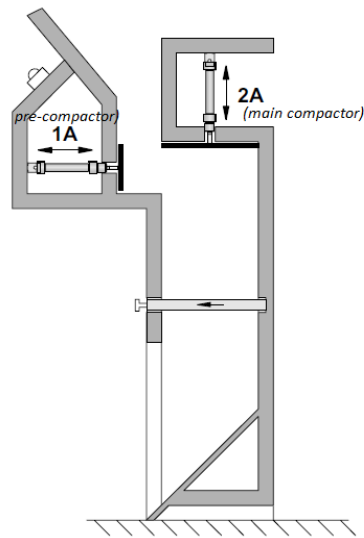
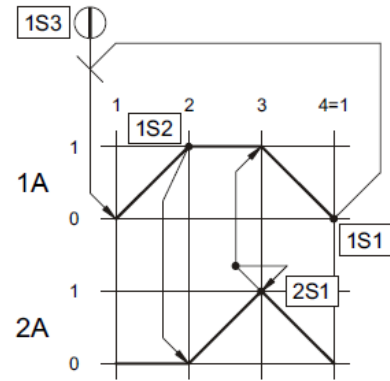

Figure 2
Figure 3
- (c) Develop a pneumatic circuit diagram according to the following description. The prototype of the pneumatic domestic rubbish compactor (under table model) as shown in Figure 2 is operated with a maximum working pressure of  $P = 3 \text{ bar} = 300 \text{ kPa}$ . It is equipped with a pre-compactor (1A) including glass crusher as well as a main compactor (2A), which exerts a maximum force of  $F = 2200 \text{ N}$ . When a start button is pressed, the pre-compactor will advance, then will be followed by the main compactor. The subsequent return stroke of both double-acting cylinders takes place simultaneously. The return stroke of both cylinders are initiated by an end sensor which is located at the end of cylinder 2A OR pressure sequence valve, which is set to switch on at  $P = 2.8 \text{ bar} = 280 \text{ kPa}$ , as shown in Figure 3.